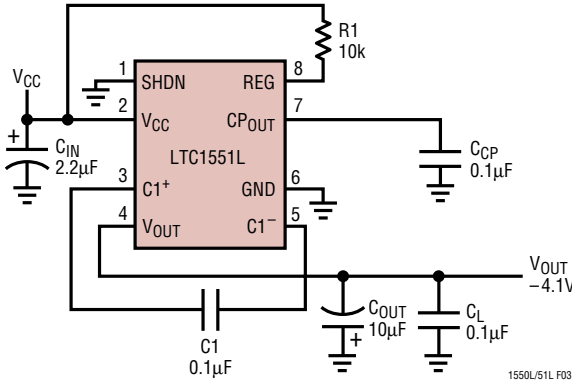
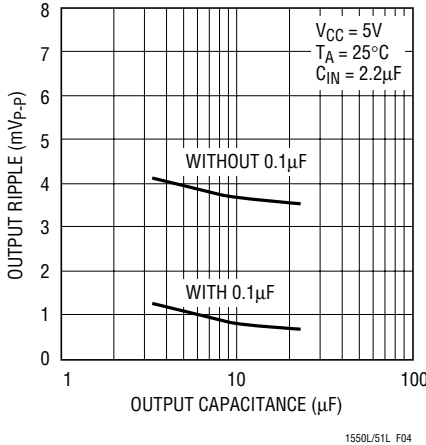
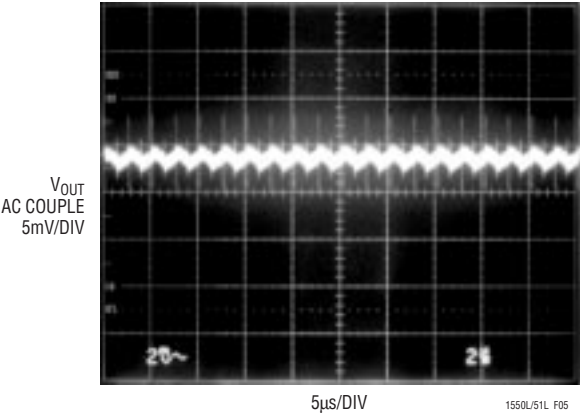

Figure 3. Output Ripple Test Circuit
Figure 4. Output Ripple vs Output Capacitance
Figure 5. Output Ripple with 10µF Tantalum Capacitor
**Load Transient Response (See Figure 3, VCC = 5V)**
**Line Transient Response (See Figure 3, IL = 10mA)**
Output Spectrum (See Figure 3)
Spot Noise (See Figure 3)
Figure 4 shows the effect of using different output capacitor values on the LTC1550L/LTC1551L output ripple. These curves are taken using the LTC1551L circuit in Figure 3, with CIN = 2.2μF and ILOAD = 5mA. The upper curve shows the performance with a standard tantalum capacitor alone and the lower curve shows that of the tantalum capacitor in parallel with a 0.1μF ceramic capacitor. As a general rule, larger output capacitors provide lower output ripple. To keep output voltage ripple below 1mVP-P, 10μF, or greater, in parallel with a 0.1μF ceramic capacitor is required. To guarantee loop stability under all conditions, a minimum of 4.7μF is required at the output.
Figure 4 shows a marked decrease in peak-to-peak output ripple when a 0.1µF ceramic capacitor is added in parallel with the tantalum output capacitor. The additional ripple with the tantalum output capacitor alone is mostly very high order harmonics of the 900kHz clock, which appear as sharp "spikes" at the output. The energy in these spikes is very small and they do not contribute to the RMS output voltage, but their peak-to-peak amplitude can be several millivolts under some conditions. A 0.1µF ceramic capacitor has significantly lower impedance at the spike frequency than a large tantalum capacitor, and eliminates most of these left-over switching spikes that the tantalum capacitor leaves behind. Figure 5 and 6 show scope photos of the output of Figure 4 with and without the additional ceramic capacitor at the output.
$C1$ . Surface mount tantalum or ceramic capacitors with low ESR generally provide adequate performance. Figure 7 shows the LTC1550L/LTC1551L peak-to-peak output ripple vs  $C_{IN}$ , taken using the test circuit in Figure 3 with  $I_{LOAD}$  set at 5mA.  $C_{OUT}$  is a  $10\mu F$  in parallel with a  $0.1\mu F$  ceramic capacitor.